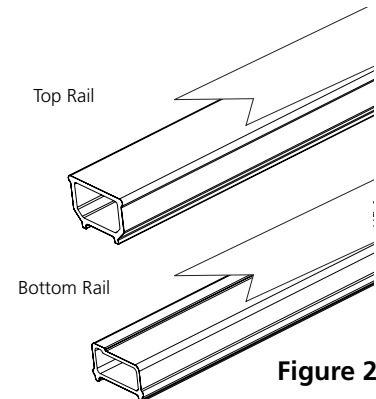

Figure 23
3. Position the template on the non-routed flat side of the top rail. Mark the proper cutting angle (Fig. 23).
4. Position the template on the top surface of the bottom rail (Fig. 23). Mark the proper cutting angle.